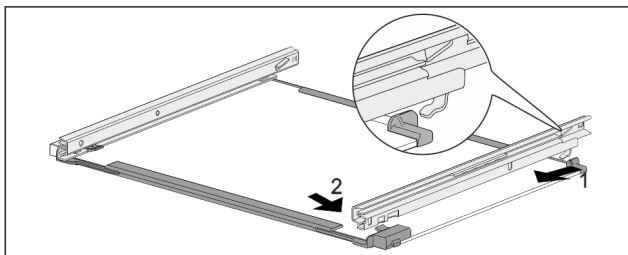

Fig. 254 Glass shelf with rails
- ▶ Hook in rail at the back. Fig. 254 (1)
- ▶ Hook in rail at the front. Fig. 254 (2)